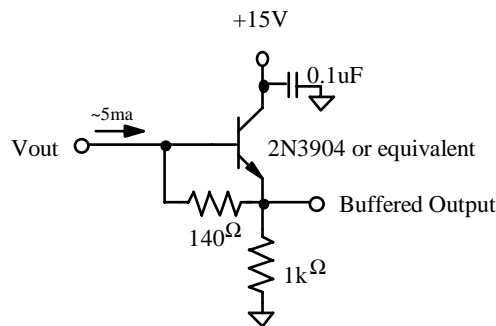

Figure 4 – Typical Output Structure Load Diagram
Charge presented to the floating diffusion (FD) is converted into a voltage and current amplified in order to drive off-chip loads. The resulting voltage change seen at the output is linearly related to the amount of charge placed on FD. Once the signal has been sampled by the system electronics, the reset gate ( $\Phi R$ ) is clocked to remove the signal and FD is reset to the potential applied by VRD. More signal at the floating diffusion reduces the voltage seen at the output pin. In order to activate the output structure, an off-chip load must be added to the Vout pin of the device - see Figure 4.